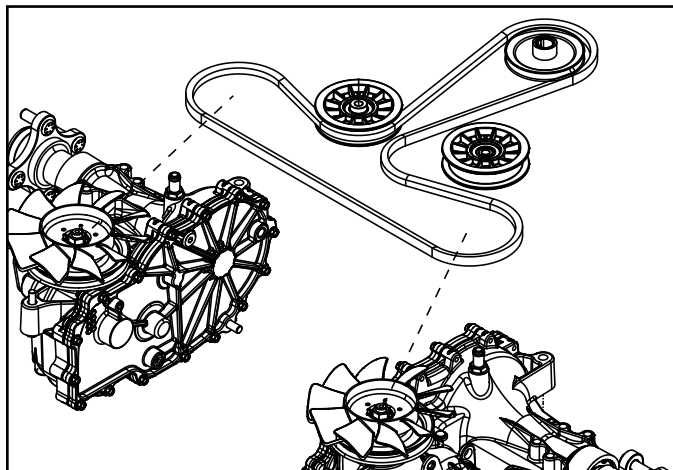

Fig. 073
1. Properly route the belt around the (2) hydro input pulleys, and (2) tensioner / idler pulleys (Fig. 073).